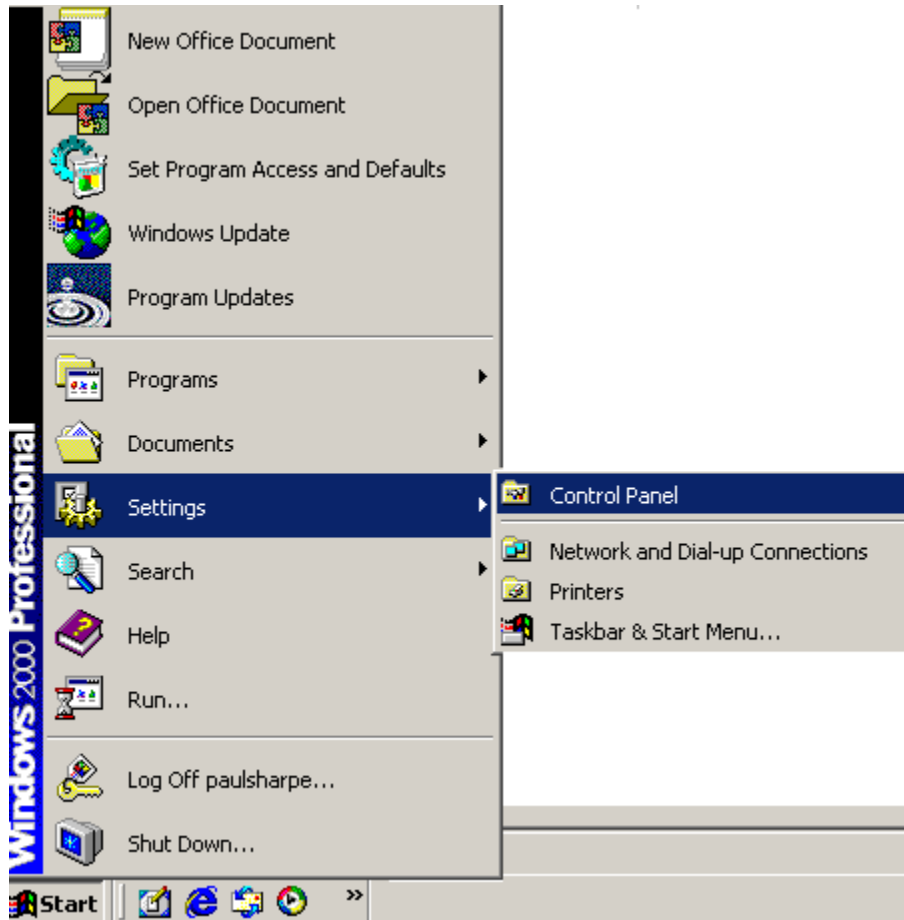

Figure 6-12: Access Windows Control Panel
Step 1: Open **Windows Control Panel (Figure 6-12)**.